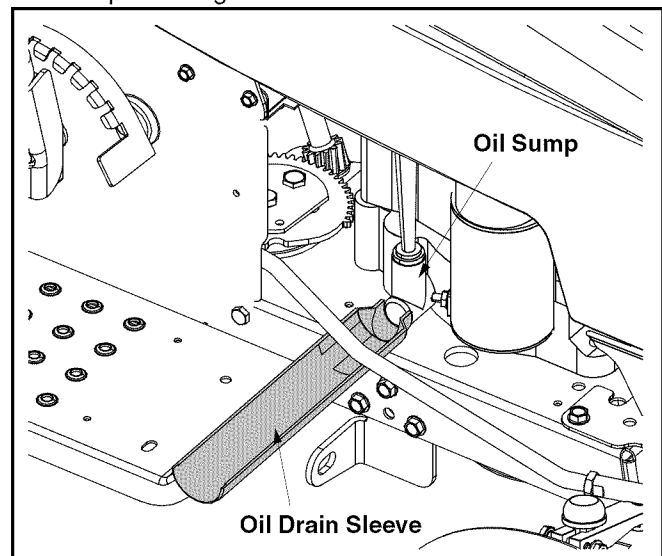

Figure 22
- Snap the small end of oil drain sleeve onto the oil sump. See Figure 22.